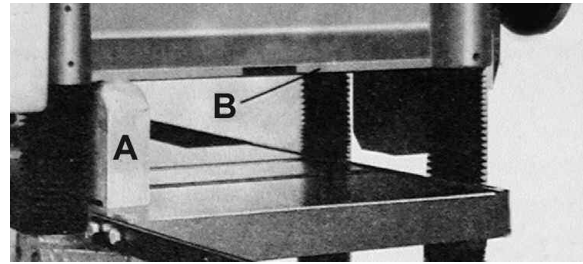

FIGURE 17
2. Place the gauge block (A) Fig.17 on the work table directly under the front edge of the head casting (B), make slight contact by gently raising the table as shown in Fig.17.